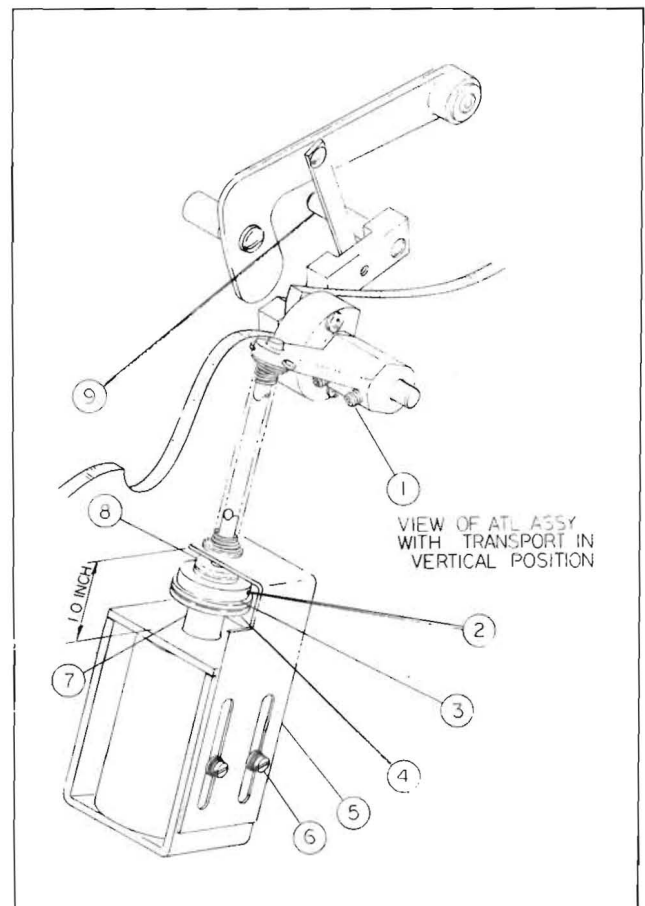

Figure 7-10. ATL Adjustment
7.8 ATL Adjustments (Figure 7-10)
- A. Check that the plunger stop collar (3) is flush with the end of the solenoid plunger (7) and that the setscrew (2) is tight.
- B. Check that there are two felt bumpers (4 and 8) on each side of the plunger stop collar (3).
- C. Set the plunger solenoid stop (5) so that it is 1.0 inch (25.4 mm) from the front face of the solenoid, as shown in Figure 7-10. Then tighten the two adjustment screws (6) securely.
- D. Loosen the setscrew (1) in the actuating arm and position the tape lifter post (9) so that it clears the tape by 0.025 to 0.050 inch (0.635 to 0.270 mm) when the solenoid is de-energized.